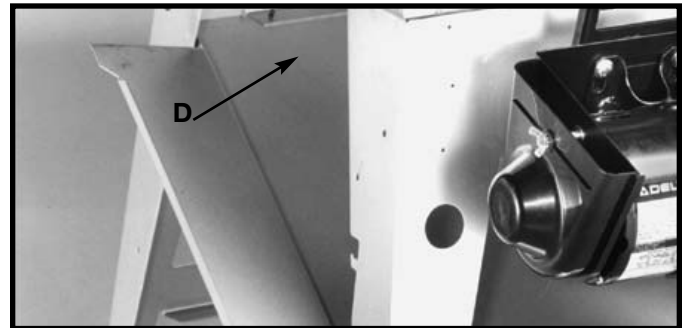

Fig. 94
The saw stand support panel (D) Fig. 94 also serves as a natural built-in dust chute. This dust chute (D) allows the sawdust to conveniently escape out the rear of the saw stand and away from the work area.